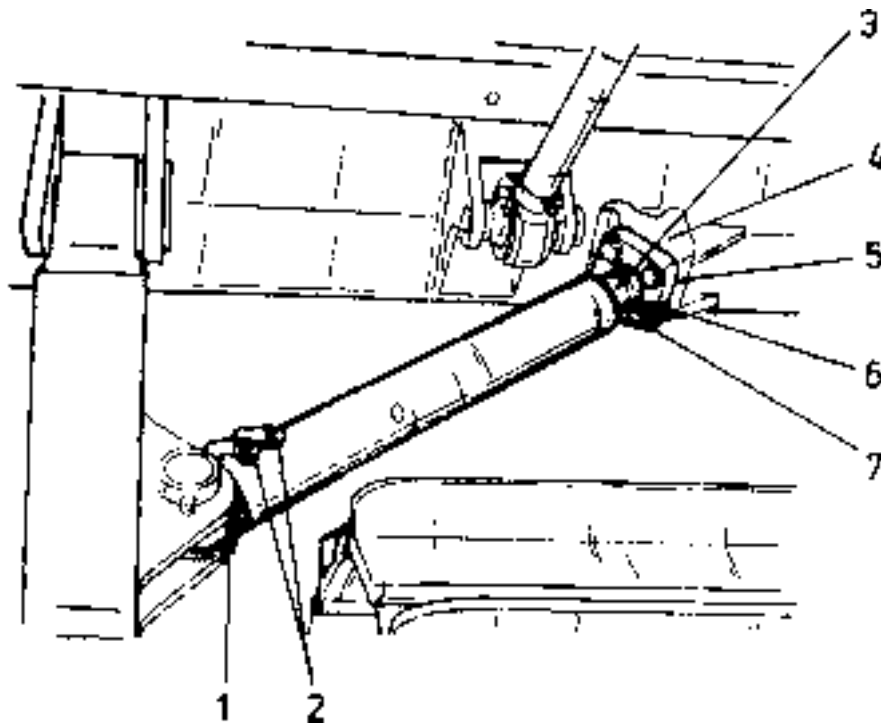

Fig. 5.38. Installing the Diagonal Strut
5.15.2. DIAGONAL STRUTS ADJUSTMENT (Fig. 5.38)